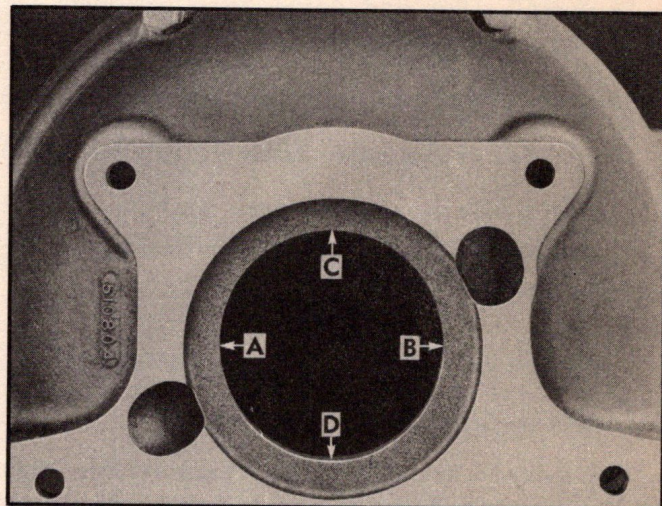

Fig. 224—Checks for Location of Hole in Rear Flywheel Housing
a. Check horizontally: Rotate crankshaft to place dial indicator spindle at point A, Fig. 224. Set dial at 0. Rotate crankshaft until indicator spindle is at B directly opposite starting point A. Indicator reading at B must not be more than .004" on either side of initial reading. This will insure that center of housing hole is within .002" on either side of center of flywheel.
b. Check vertically: Rotate crankshaft to place dial indicator spindle at point C, Fig. 224. Set dial at .010". Rotate crankshaft until indicator spindle is at D directly under C. Indicator reading must be between .006" and .000" (.004" preferred). This will insure that center of hole in housing is between .002" and .005" below center of flywheel.